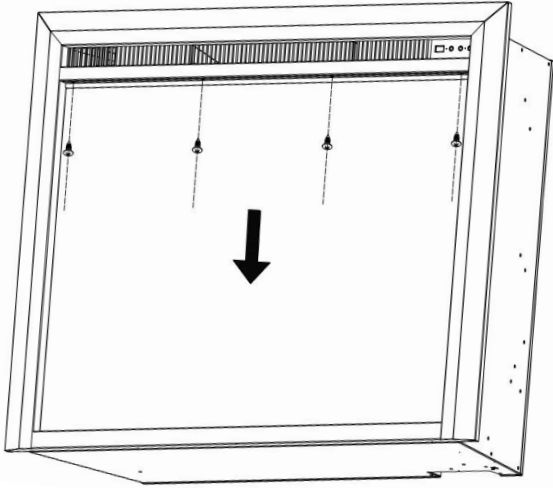
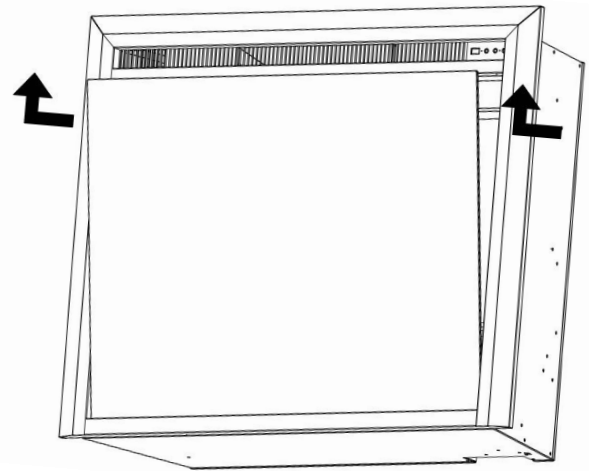

Fig. 6
Fig. 7
- Use the screw driver to take off the four screws from the bracket, and move the glass panel out. (Fig.6, Fig.7)